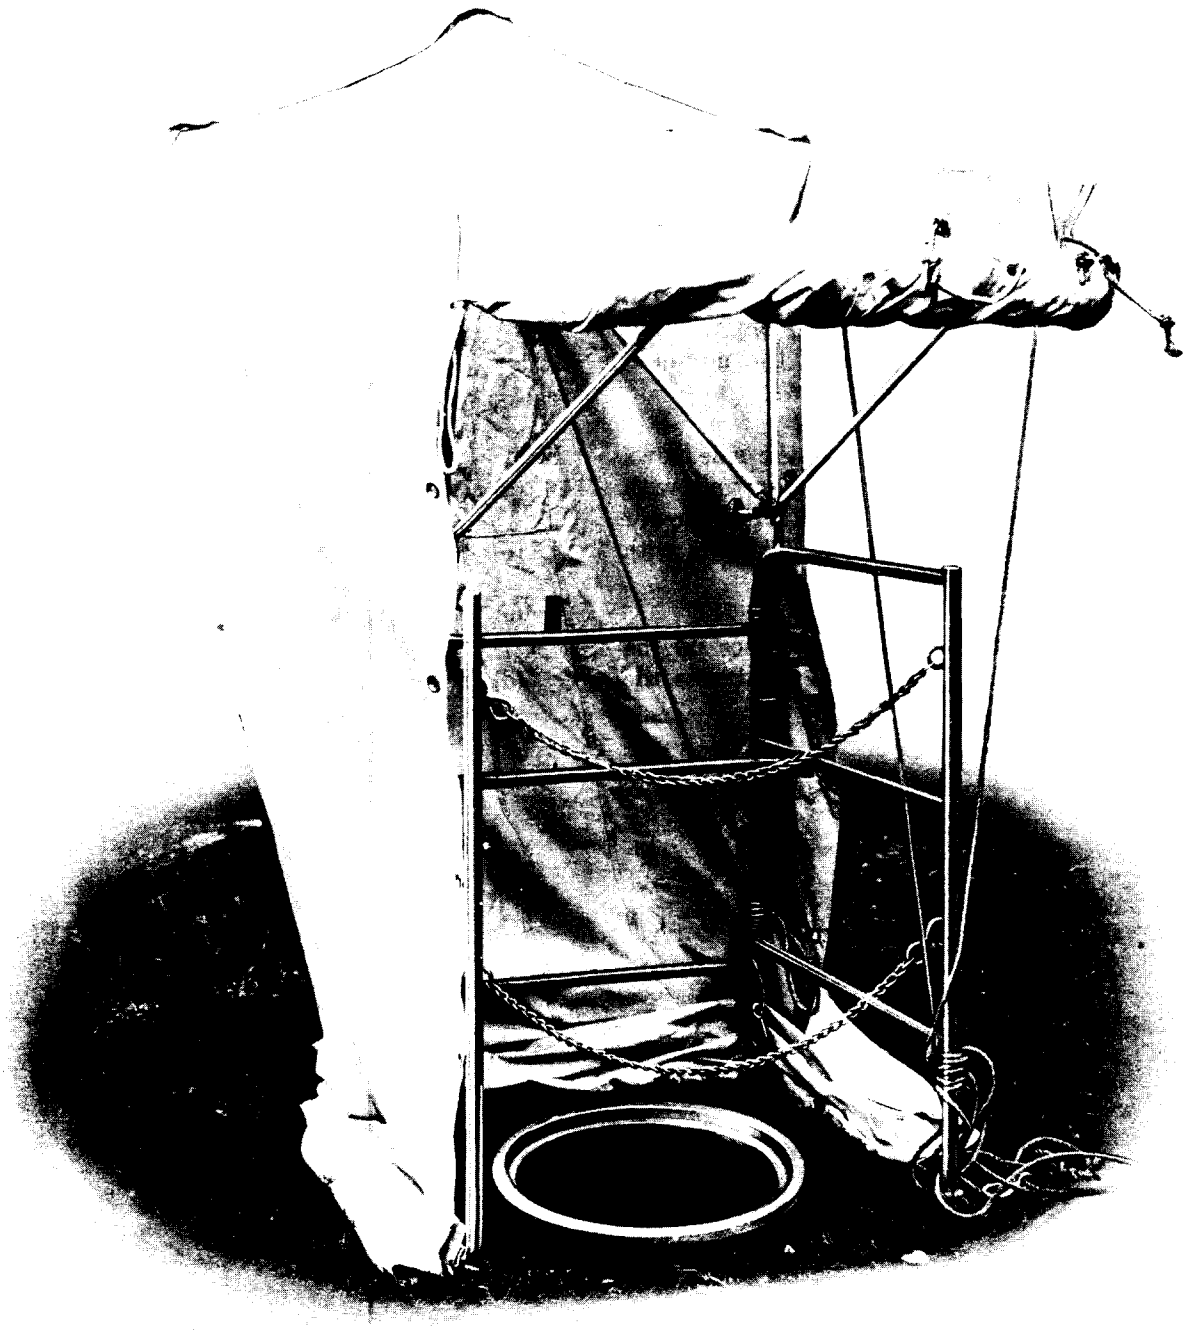

Fig. 11—D Workman's Tent Placed on Manhole Guard
5.19 Release the sidewall ropes and lace up the ends as required. Figure 11 illustrates the